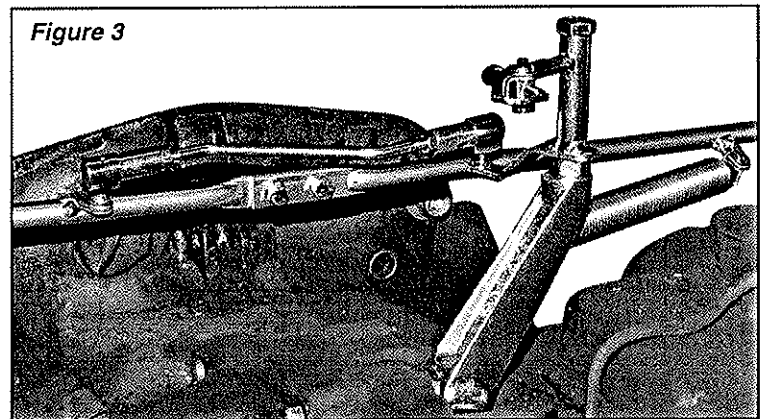

Figure 3
4. Locate the two pieces of linkage rod. Assemble together so that the spring tab and linkage ball are on the same side of the assembled rod (See **Figure 3**). Locate the two ball socket ends and screw one onto each end of linkage rod. Leave the lock nuts loose at this time.
5. Hold the linkage rod up to the carburetor linkage balls. Adjust ball sockets on rod until each snaps straight onto each ball without moving carburetor linkage arms. Snap sockets onto balls and position rod so that the linkage ball is upright (ball bracket parallel to top of engine) and tighten the lock nuts at each socket (See **Figure 3**).
6. Locate the linkage pivot bracket and pivot. Mount pivot onto bracket using the M8 x 60 bolt and M8 nut from kit. Insert bolt from top (cable mount end) of pivot, screw on the nut and then screw onto top of the pivot bracket. Adjust to remove play and allow free movement of pivot, then tighten the nut against the pivot bracket to lock bolt tight (See **Figure 3**).
7. Remove center top case bolt from engine and install linkage pivot bracket on the right (passenger) side with arm offset to the right using the M8 x 90 bolt, nut and lock washer from the kit. Hook the return spring from the linkage rod through the hole in the linkage pivot bracket. Install the small linkage rod to ball on the pivot and on the linkage rod. Tighten the lock nuts so the small linkage rod is parallel to the large linkage rod (See **Figure 3**). Check throttle operation for free movement. If there is any indication of sticking or binding, correct as necessary before proceeding.